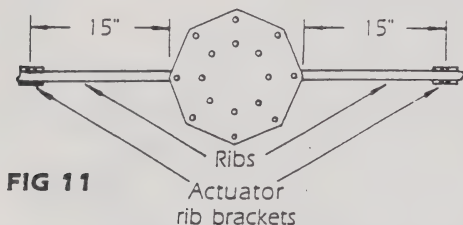
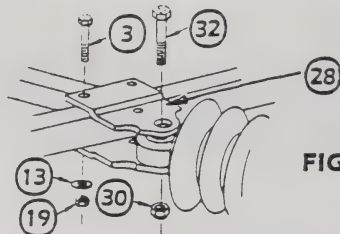

FIG 11
FIG 12
1. The brackets are attached approximately 15" from the edge of the back plate on the center rib. (Left or right), that has the lowest look angle (see Fig. 11). Straddle the rib strut with the rib bracket plates and fasten them to the rib using three $\frac{3}{16}$ " x 2" bolts, three $\frac{3}{16}$ " flatwashers and three $\frac{3}{16}$ " nyloc nuts (see Fig. 12).
2. Attach the upper end of the actuator to the actuator rib brackets using one $\frac{1}{2}$ " x 2" bolt and one $\frac{1}{2}$ " nyloc nut (see Fig. 12).